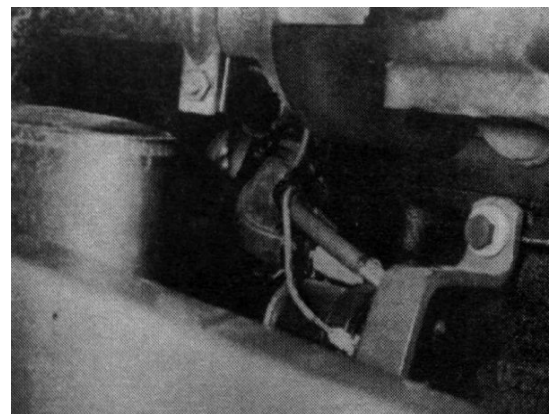

Figure 13
2. Install 90 degree molded hose elbows onto inlet and outlet and secure with original clamps. Figure 13 & 14
3. Insert a steel splice into the elbows as shown in Figure 13. Secure with a hose clamp. Route hose from the top of the H-valve to the outlet side of the water pump. Cut hose and secure to fitting using a hose clamp. Attach remaining hose to inlet side of water pump using a hose clamp.